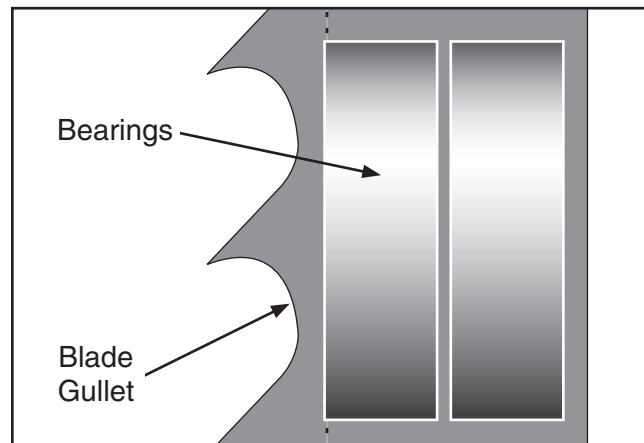

Figure 35. Lateral adjustment of guide bearings.
- Adjust the blade guide bearings until the edges of the bearings are $\frac{1}{64}$ " (approximately the thickness of four pieces of paper) behind the blade gullets, as illustrated in **Figure 35**.